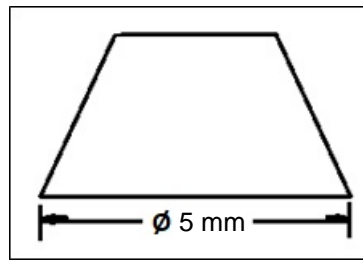

FIGURE 4.14
4.14 What is the size of the base circumference of the cone shown in Figure 4.14?